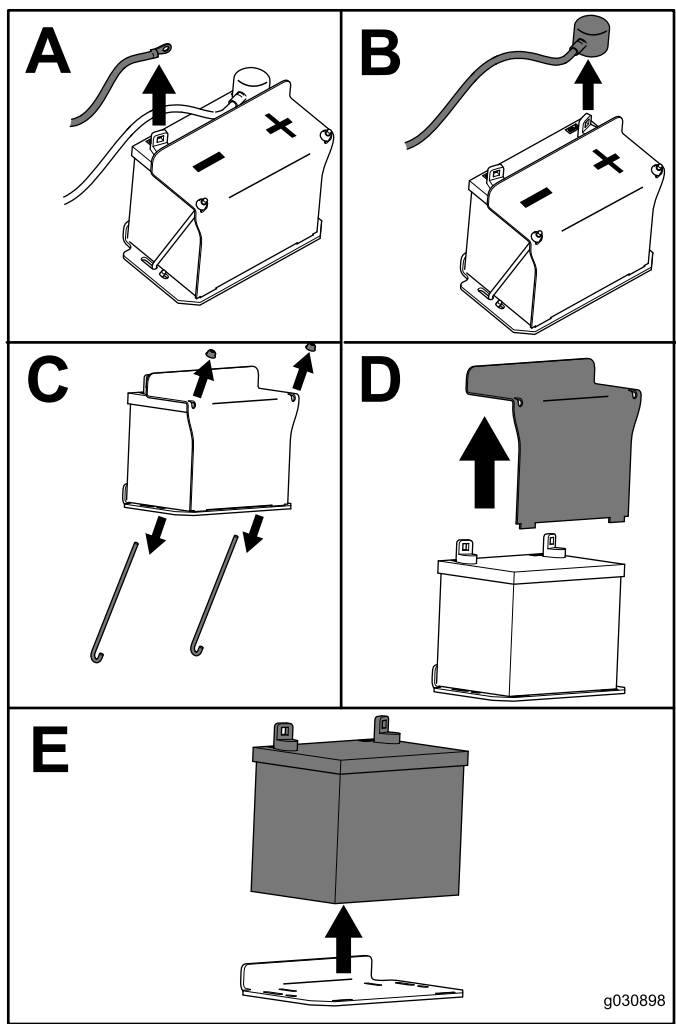

Figure 53
3. Remove the battery as shown in Figure 53.